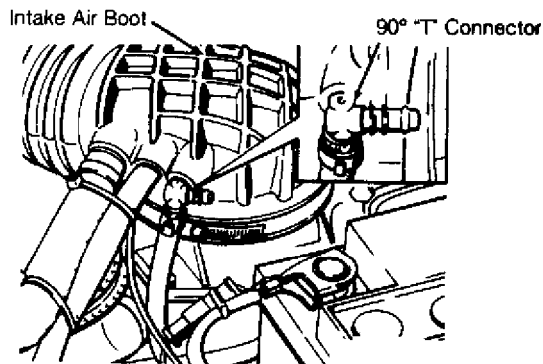

Fig. 5: Canister Hose Position For Oxygen (O₂) Sensor Test
2) Attach Multimeter (US 1119) to adapter and set meter on DCA 200m scale. Remove PCV hose and vent to atmosphere. Remove 90° "T" connector and insert port with small vent hole into intake air boot. See Fig. 5.